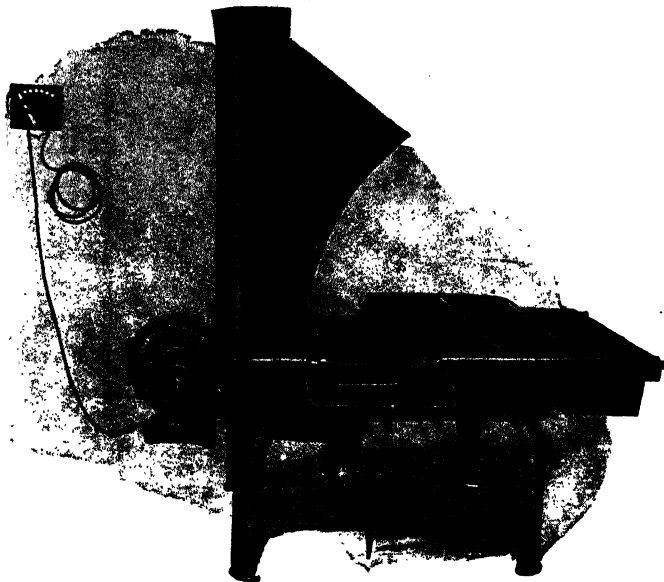
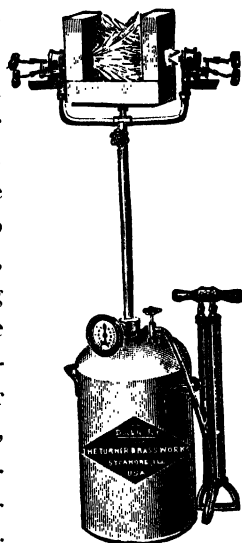
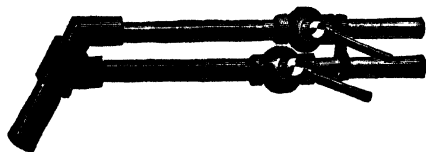

Fig. 49. Modern Motor-Driven Forge
Fig. 50. Double-Jet Brazer
Fig. 51. Hand Gas Torch for Brazing
**Forging Equipment.** *Forges.* Many of the jobs in a repair shop require the use of a forge, two kinds being necessary for all well-equipped shops. Forging and welding are easily cared for by the power-driven blower forge, Fig. 49. This type of forge is made of steel and the medium size is best for automobile repair shop work. For brazing, melting babbitt metal, hardening, tempering, annealing, and heating soldering irons, it is best to use a gas forge that takes its air from the tank of the air-compressor outfit and its gas from the regular city or town mains. Portable gasoline forges, Fig. 50, are obtainable and work equally well. It is well to have also a small hand torch, Fig. 51, for use in smaller brazing or soldering jobs.